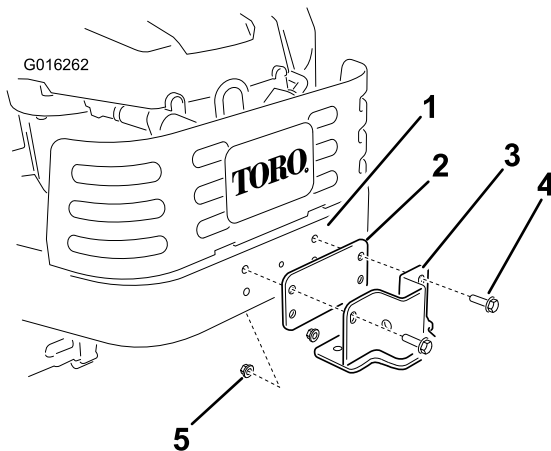

Figure 3
1. Locate the bagger frame bracket. Install the bracket to the machine frame as shown in Figure 3. Secure the bracket to the frame using two bolts (5/16 x 2-1/2 inch) and two lock nuts (5/16 inch).